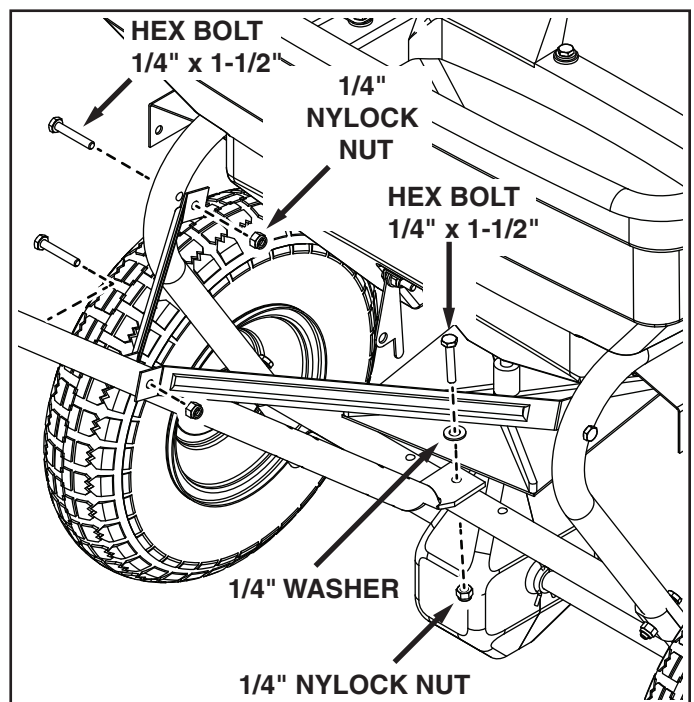

FIGURE 4
11. **Tighten** all nuts and bolts in same sequence as assembled in steps 8 through 11. See figure 4.